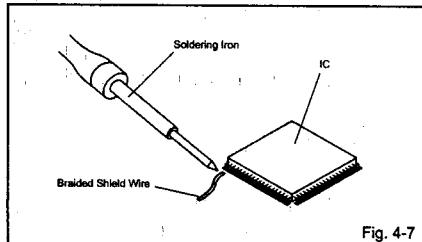

Fig. 4-7
- Absorb the solder left on the lead using the Braided Shield Wire. (Refer to Fig. 4-7.)